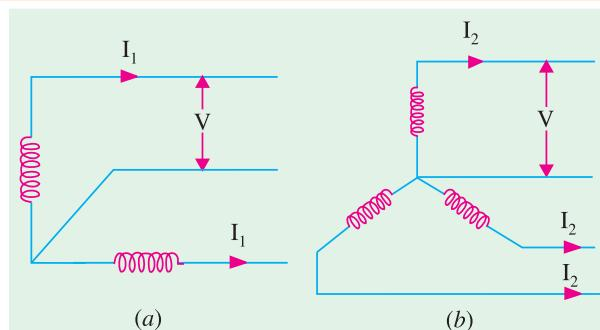

Fig. 41.12
**Solution.** The two systems are shown in Fig. 41.12. Let  $R$  be the resistance per conductor.